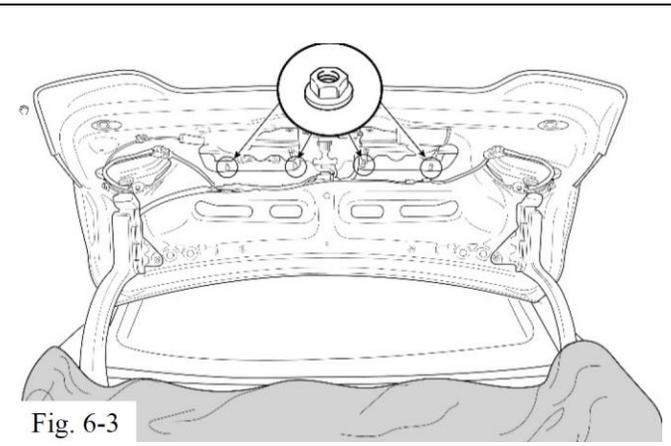

Fig. 6-3
- c) Install the four (4) M6 nuts onto the studs inside the decklid and torque to 3.8 Nm (33.6 in.lb) using a torque wrench (Fig. 6-3)